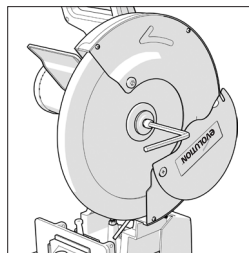

Fig. 4
- Use the supplied hex key to loosen the arbor screw. (**Fig. 4**)